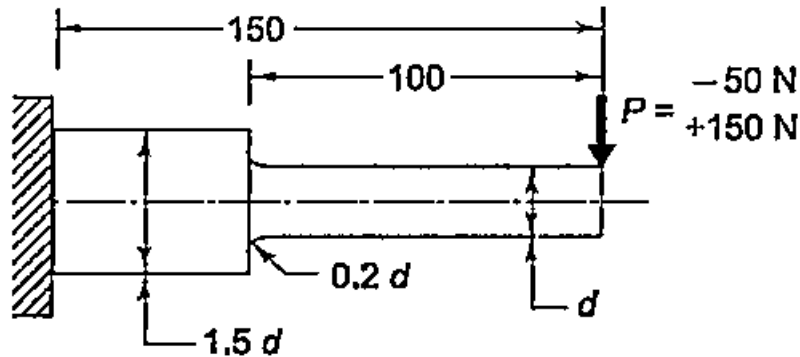

Fig:2
3. (a) A cantilever beam made of cold drawn steel 40C8 ($\sigma_{ud} = 600 \text{ N/mm}^2$ and $\sigma_{yt} = 380 \text{ N/mm}^2$) is shown in Fig.2. The force P acting at the free end varies from -50 N to $+150 \text{ N}$. The expected reliability is 90% and the factor of safety is 2. The notch sensitivity factor at the fillet is 0.9. Determine the diameter ' d ' of the beam at the fillet cross-section using Goodman curve as failure criterion.